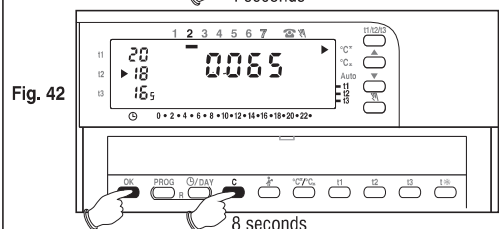

Fig. 42
- **To reset the total hours of operating from the beginning of the season:** keep **C** pressed for at least 8 seconds until the 24 hr temperature range goes off, then press **OK** simultaneously (Fig. 42). **0000** will appear on the display (the counter that counts the boiler's total hours of operating is reset). Release **C** and **OK**.